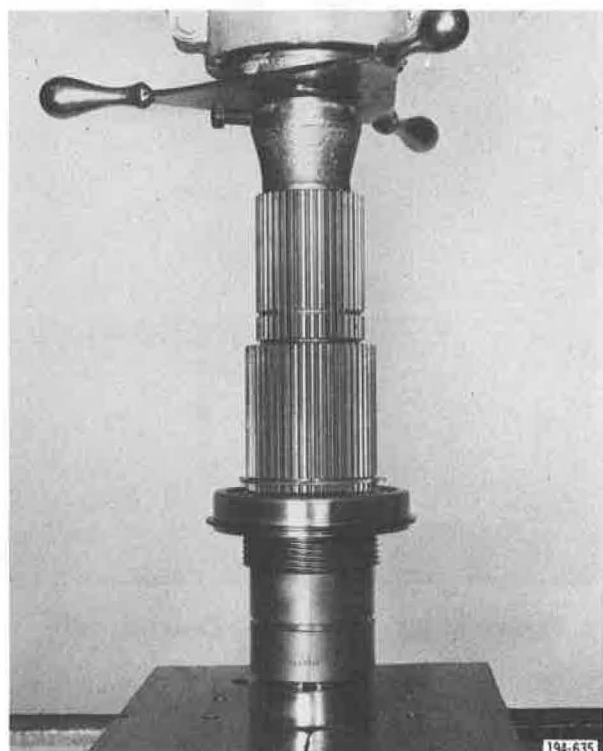

Figure 5-464. Pressing Race onto Mainshaft
3. Press rear bearing cover bearing inner race onto rear mainshaft. See Figure 5-464.